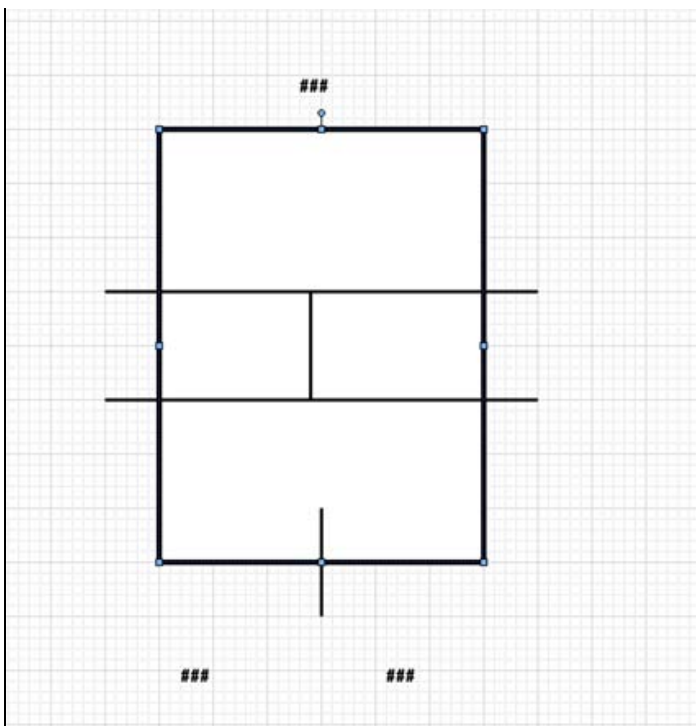

FIGURE 13: VALVE GRAPHIC SYMBOL
- Use Figure 13 (below) for orientation in steps 7 - 11.